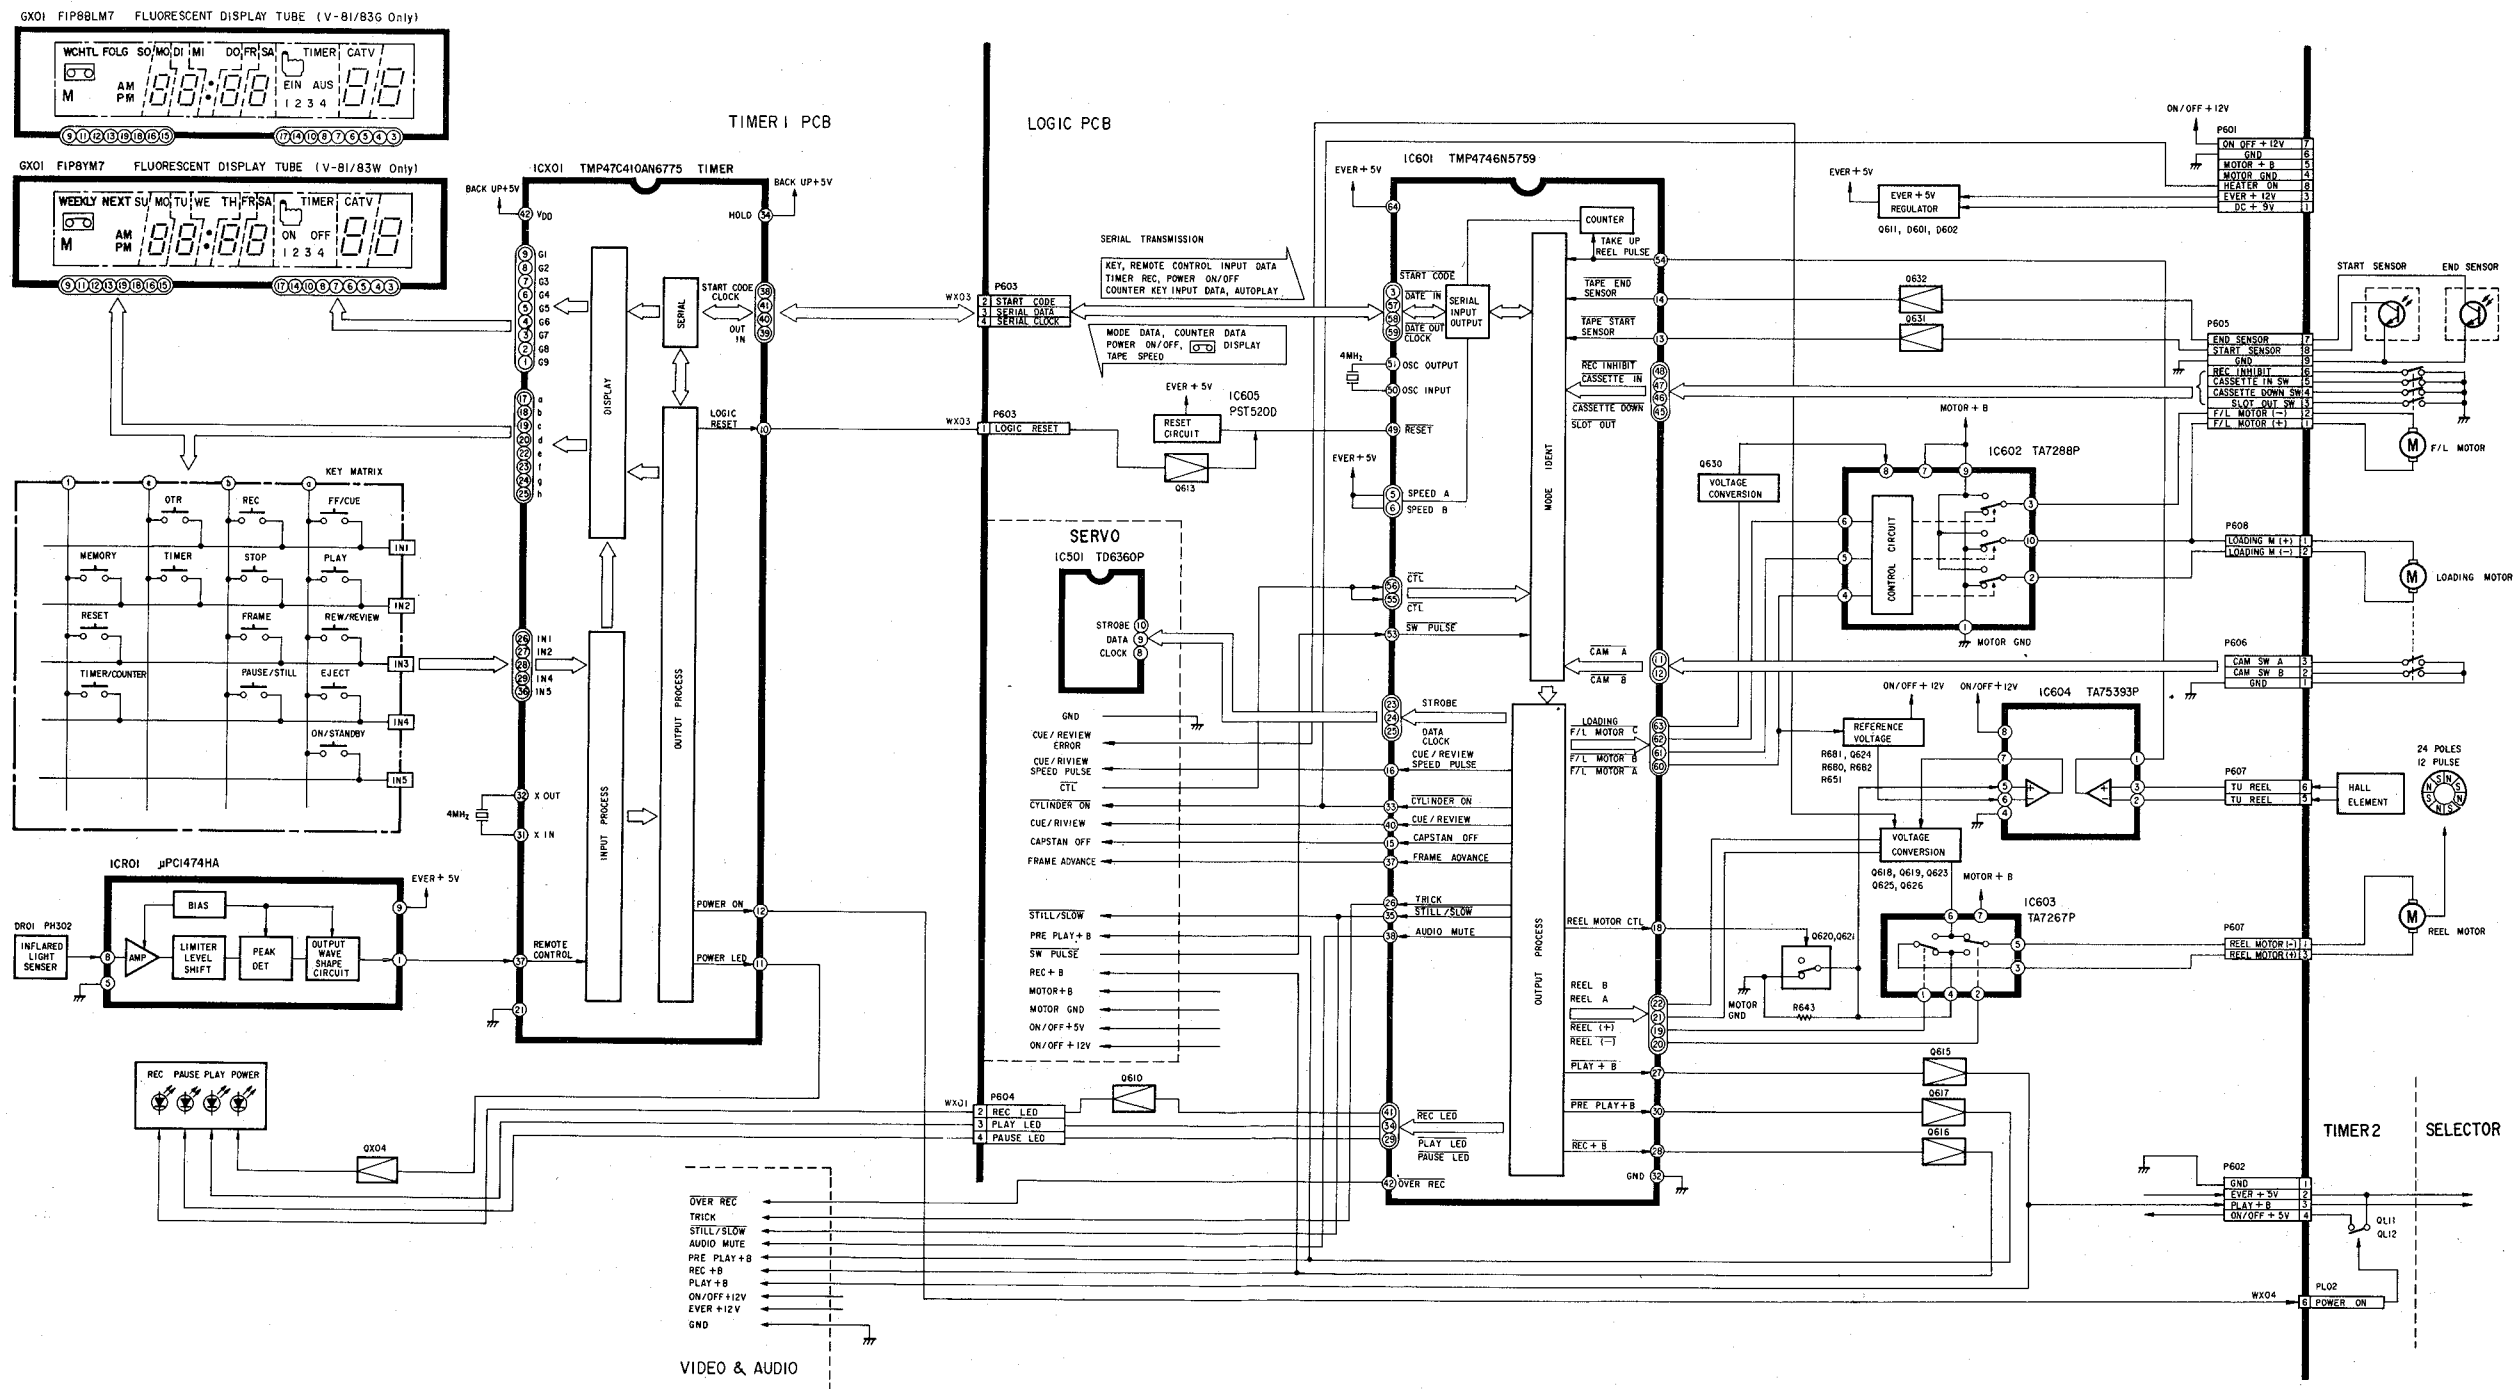

Fig. 4-4-1 Logic circuit system block diagram
3) Fig. 4-4-1 shows the system block diagram of the logic circuit.